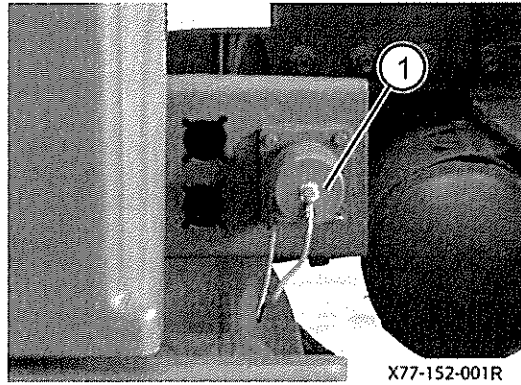

Fig 4 Inter-vehicle connection socket
8 Refer to Fig 4. The Inter-Vehicle Connection (IVC) socket (1) is located on the chassis.